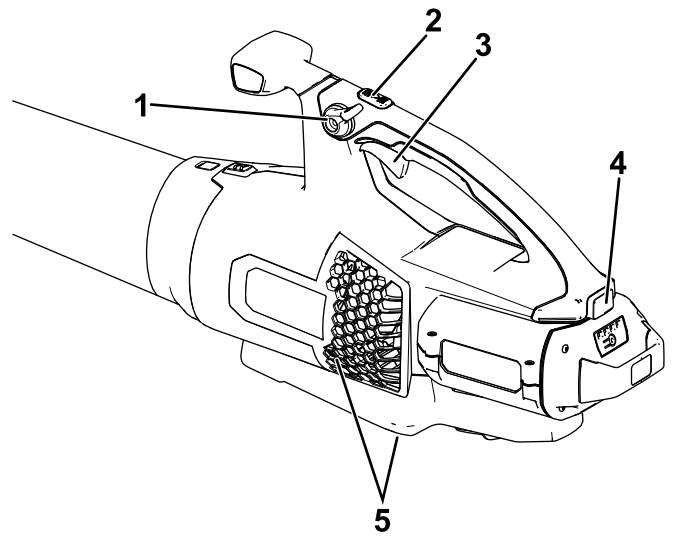

Figure 7
4. To start the blower, squeeze the variable-speed trigger (Figure 7).
Note: Engage the speed lock to keep the machine on without pressing the variable-speed trigger (Figure 7).
To achieve maximum performance (air speed) , press and hold the turbo boost button for the desired amount of time (Figure 7).
To adjust the air speed as you blow, use the variable-speed trigger (Figure 7).
To maintain the current air speed, engage the speed lock (Figure 7).
To shut off the blower, disengage the speed lock (if in use) and release the variable-speed trigger (Figure 7).